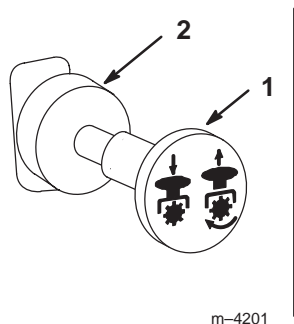

Figure 14
3. Move the PTO (power take off) switch to off (Fig. 14).